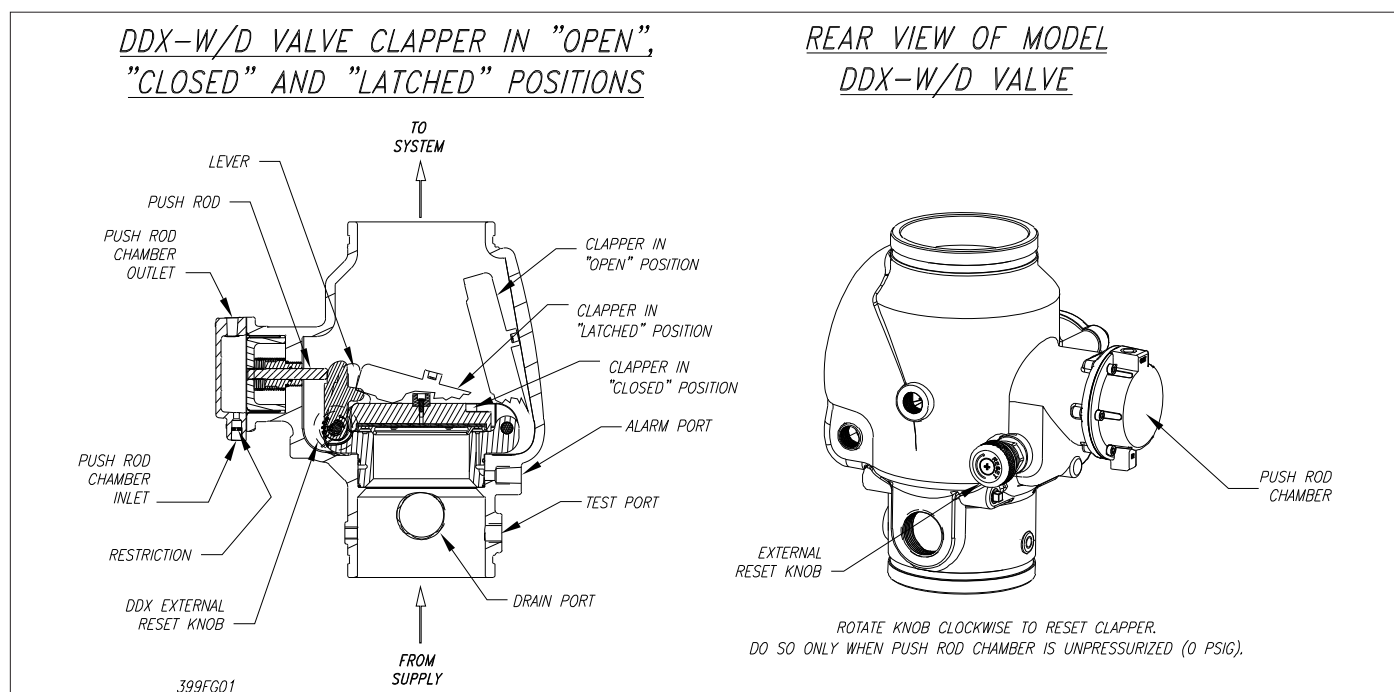

Fig. 1
The Reliable Model DDX-W/D Dry Pipe Valve is a hydraulically operated latch-type valve (see Fig. 1) designed for use as a primary control valve in a low pressure dry pipe valve system, or an alarm valve in a wet system. The trim set used with the Model DDX-W/D Wet/ Dry Pipe Valve contains the Reliable Model LP Dry Valve Actuator releasing device, which is used in the Dry Pipe configuration. This allows the system's air or nitrogen pressure requirement to be considerably less than the available water supply pressure (see Table A). The following benefits are a direct result of lower air pressure requirements:
5. System maintenance is simplified since priming water is not required and the Model DDX-W/D Valve can be reset externally without cover removal. This is accomplished by turning the external reset knob at the rear on the Model DDX-W/D Valve (see Fig. 1). This feature provides a significant system-restoration time advantage.
The Reliable Model DDX-W/D Wet/Dry Valve is shown in both the closed and open positions in Fig. 1. In the closed position, the supply pressure acts on the underside of the clapper and also on the pushrod through the push-
After system shutdown, resetting the Model DDX-W/D Wet/Dry Valve is quite simple. Doing so only requires turning the reset knob at the rear of the valve (see Fig. 1). The external reset feature of the Model DDX-W/D Wet/Dry Valve provides a means for simple, economical system testing, which is one essential facet of a good maintenance program. The external reset feature does not, however, eliminate another important facet of good maintenance, namely, periodic cleaning and inspection of the internal valve parts.
After shutdown, resetting the Model DDX-W/D Wet/Dry Valve is quite simple. Doing so only requires turning the reset knob at the rear of the valve (see Fig. 1). The external reset feature of the Model DDX-W/D Wet/Dry Valve provides a means for simple, economical system testing, which is one essential facet of a good maintenance program. The external reset feature does not, however, eliminate another important facet of good maintenance, namely, periodic cleaning and inspection of the internal valve parts.